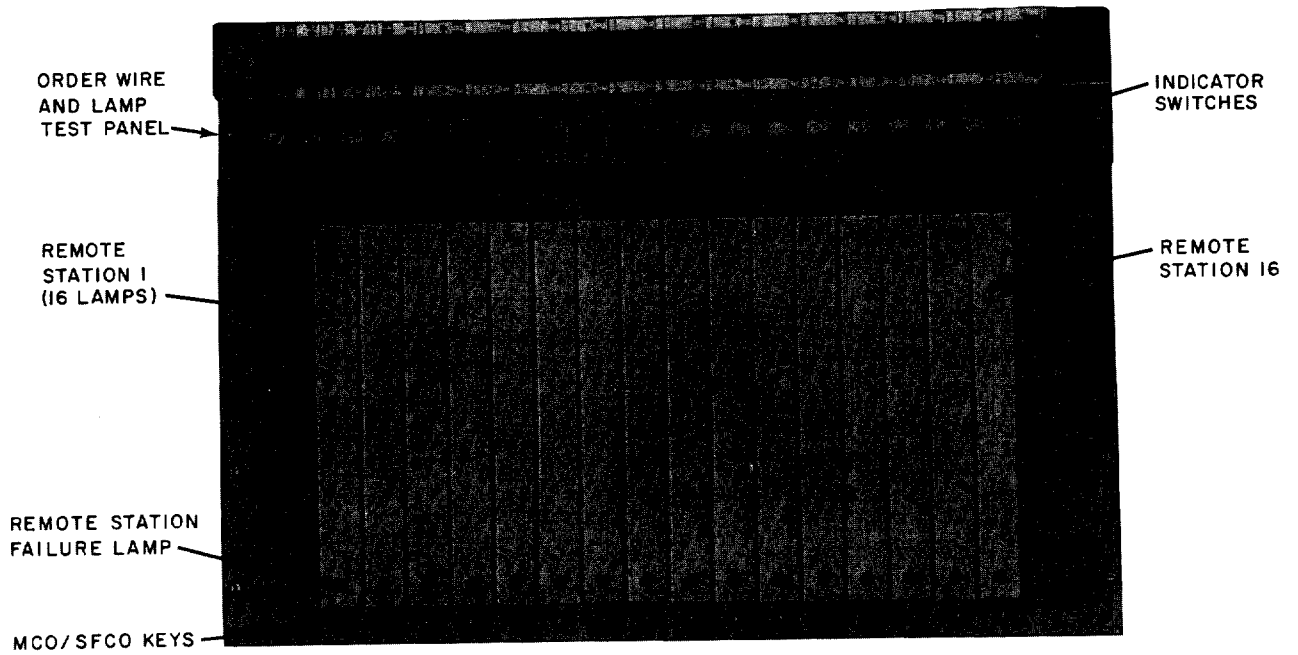

Fig. 2—Alarm Display Panel
1.04 The alarm display panel (Fig. 2) indicates the results of the automatic alarm polling mode. The display consists of a column of 16 lamps for each remote station. If an alarm is reported by a remote station, it will be displayed in the appropriate column on the alarm display panel.